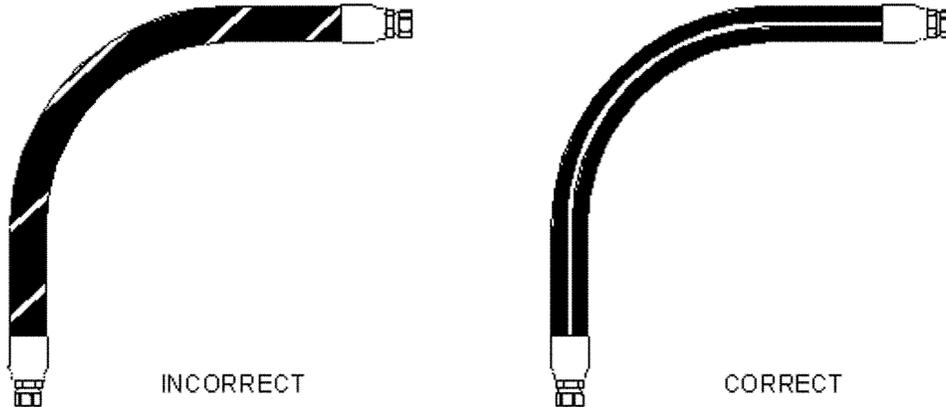

FIGURE 9—TWIST ANGLE AND ORIENTATION
- 7.3 Twist Angle and Orientation**—Pressure applied to a twisted hose may shorten the life of the hose or loosen the connections. To avoid twisting, use the hose lay line or marking as a reference (see Figure 9).